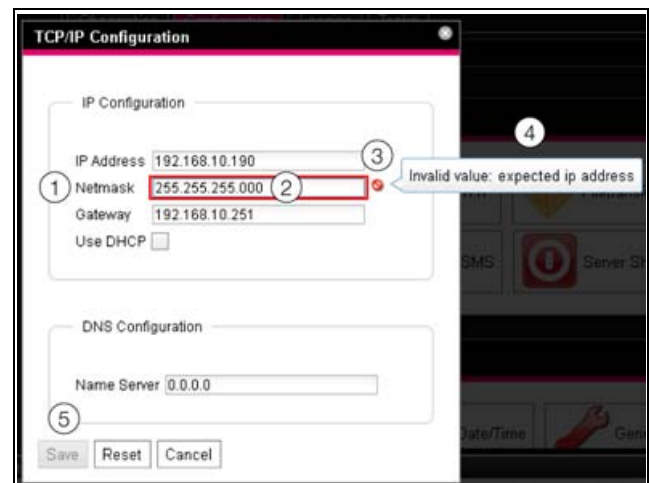

Fig. 76: Display of an incorrect entry
- A red "prohibited symbol" (fig. 76, item 3) appears after the incorrect entry (fig. 76, item 2) in the **Netmask** field (fig. 76, item 1)
- By holding the mouse pointer over the prohibited symbol, additional information about the error will appear (fig. 76, item 4).
- The **Save** button is deactivated (fig. 76, item 5), so that the current values cannot be saved.